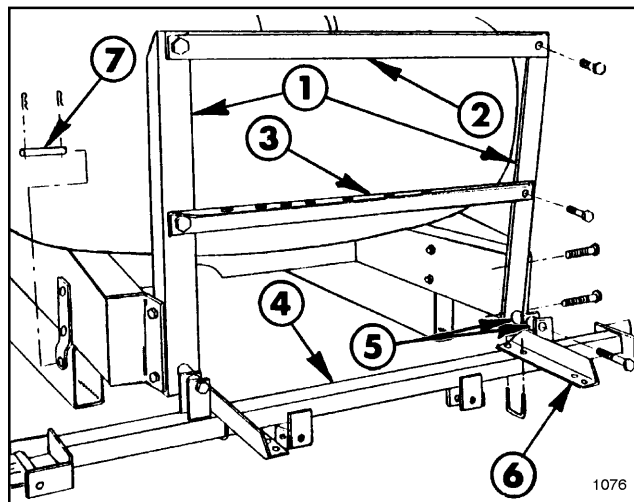

FIG. 11
4. Place the tank and saddle assembly on the vehicle frame. Secure it to the vehicle frame by sliding the (2) 3/4" dia. clevis pins through the rear mounting lugs and the vehicle frame. Secure by installing the (4) lynch pins into the clevis pins. See FIG. 11.
1. Attach the two boom mount upright angles onto the rear of the tank saddle extensions using (4) 1/2" x 1 1/4" hex hd cap screws and locknuts (FIG. 11)
2. Position the lower cross support angle and attach it to the boom mount upright arms with (2) 1/2" x 1 1/4" hex hd cap screws and locknuts (FIG. 11).
3. Position the upper cross support angle and attach it to the boom mount upright angles with (2) 1/2" x 1 1/4" hex hd cap screws and locknuts. (See FIG. 11)
5. Position the two center boom angles on the main frame tube and secure them to the frame tube with (2) square U-bolts, (4) flat washers, and (4) hex nuts (FIG. 11).